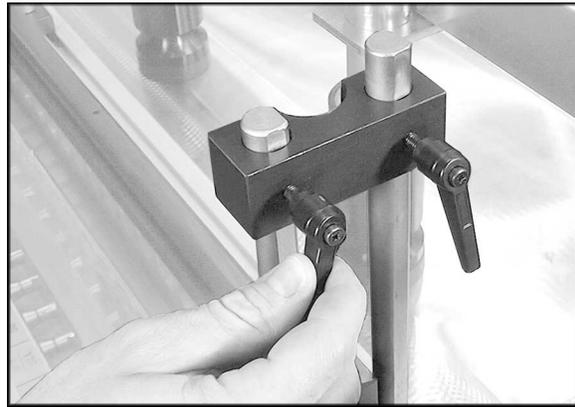

Figure 33
- Loosen locking handle on the lower bar at both ends of the fence, as shown in Figure 33.